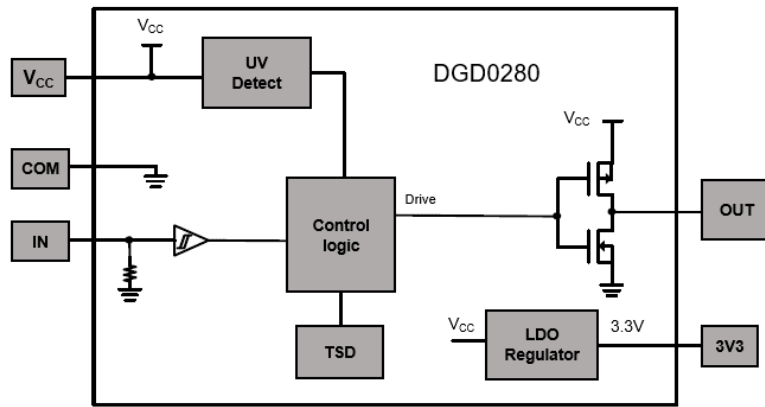

Figure 3. Input logic and functional block diagram for the DGD0280
There is only a single input (IN) for the DGD0280 and it is a very high impedance input with a pull-down resistor. The pull-down resistor on IN has an approximate value of 400kΩ (see Figure 3).